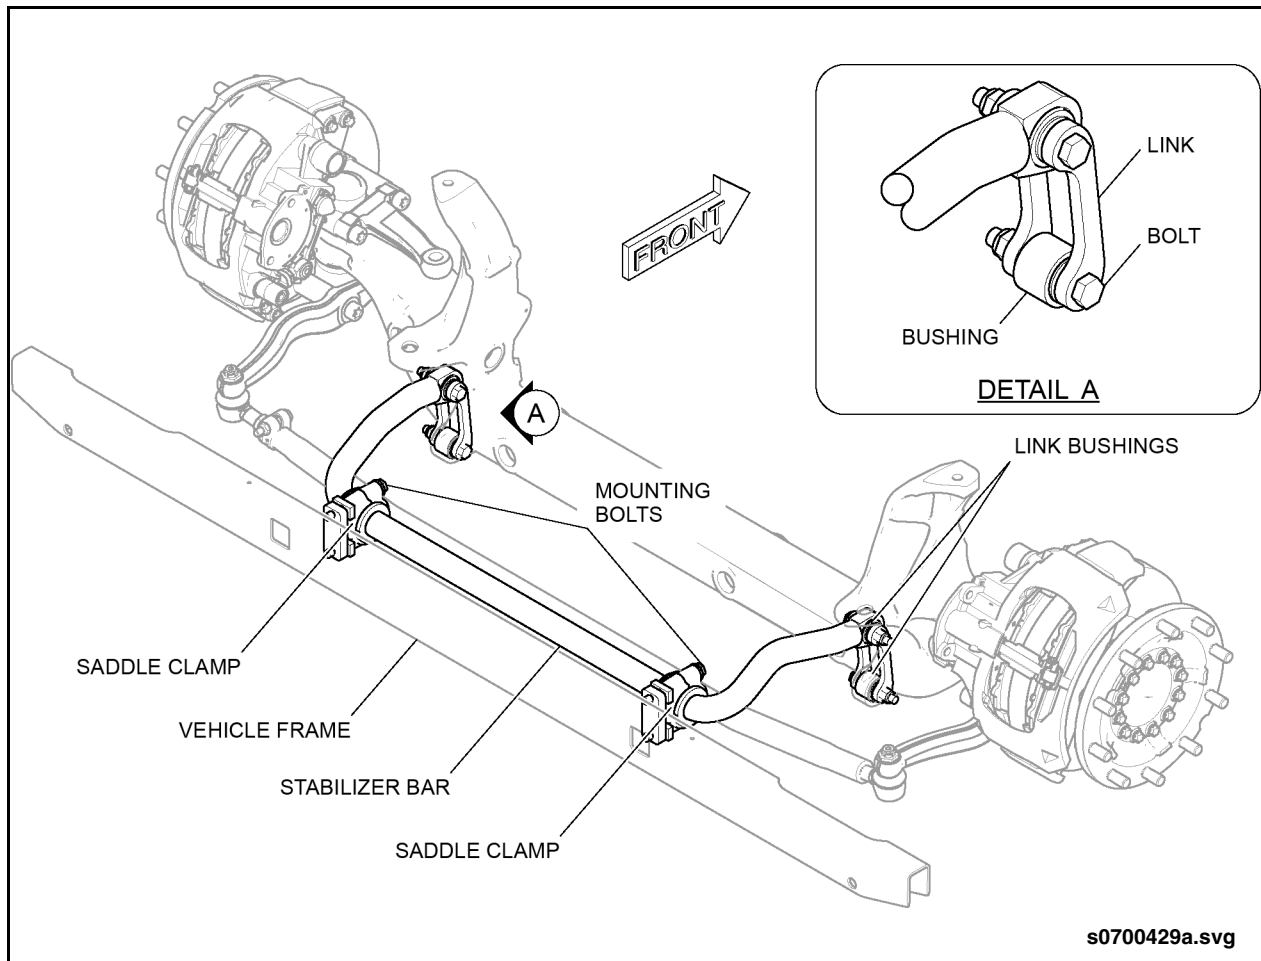

Fig. 1: Stabilizer Bar Inspection
- ❑ Check for excessive play in the bushings at the stabilizer ends and link locations. See “Fig. 1: Stabilizer Bar Inspection” on page 2. Refer to Section 1 of your New Flyer Service Manual for replacement procedure.